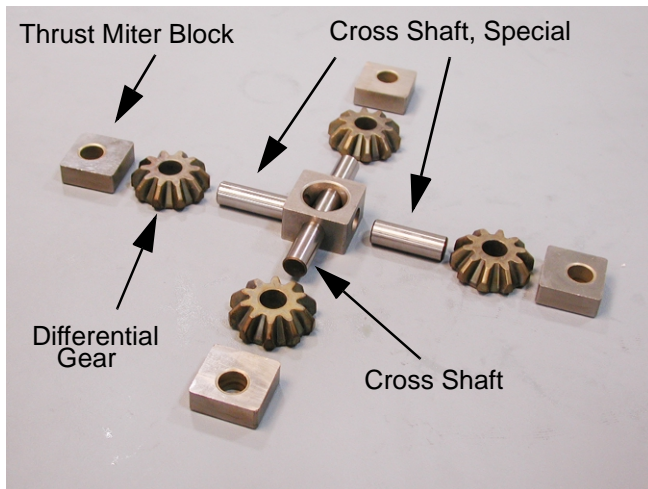

Figure 30
41. Disassemble the center differential assembly and inspect for wear or damage. See Figure 30.